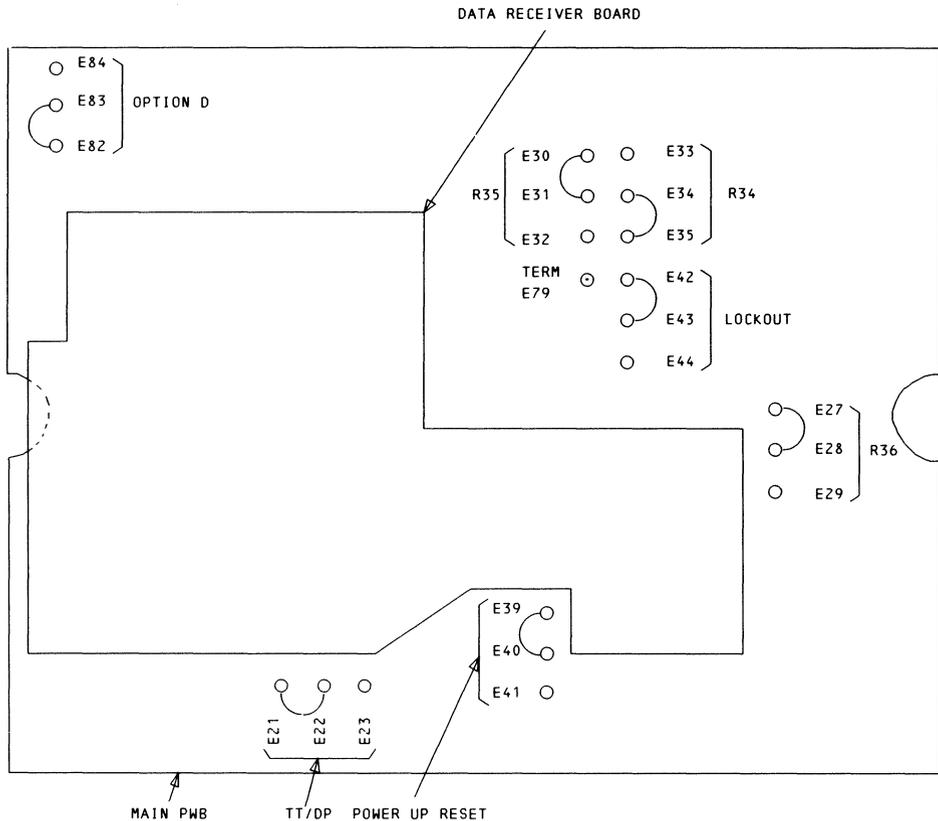

Fig. 4—Main PWB and Data Receiver Board Showing Option Plug Locations and Plug Positions as Shipped
- (1) Place the options on their proper positions. See Fig. 4 and Table C.
Note: See Fig. 4 for location of option plugs on main PWB.
Note: See Fig. 4 for location of option plugs.